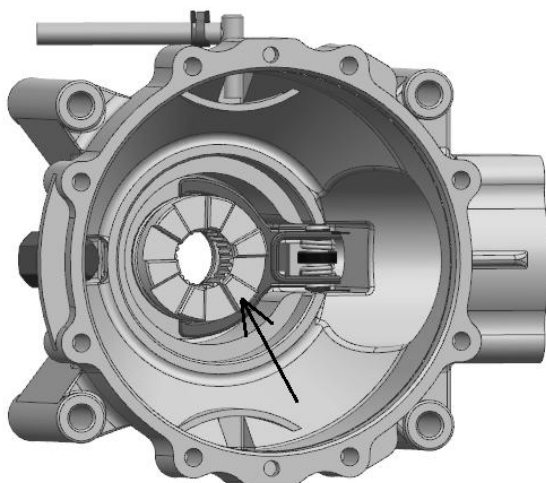

Fig 8
**NOTE: The PINION GEAR ASSY (A) AND THE DIFFERENTIAL ASSEMBLY ( B) MUST BE REPLACED SIMULTANEOUSLY, NOT SEPARATELY.**
**9. Remove the clutch gear (NO.25) from the gearcase cover. →Fig 8**